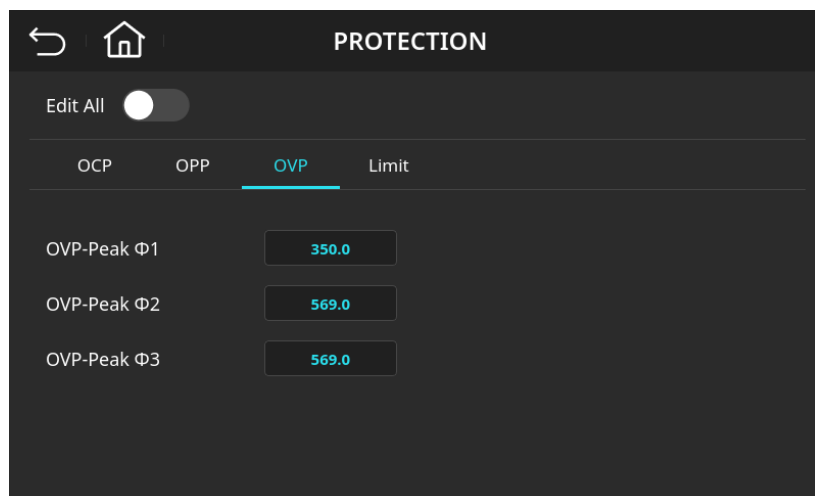

Figure 4-56 Output Overvoltage Protection Page (OVP-Peak Φ 1 = 350 V)
4. Enter 3, 5, 0 then press  to change the value to “350.0”, as shown in Figure 4-56.